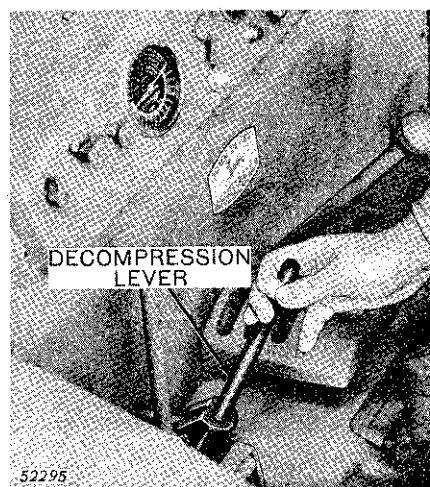

Figure 10-10-2—Operating Decompression Lever
(1) Allow the cranking engine to run a short while before engaging it with the diesel engine. The length of time will vary with the air temperature, being normally from 1 to 3 minutes.
(2) Turn the cranking engine throttle lever clockwise to the "run" position.
(3) Pull the decompression lever to the rear (Figure 10-10-2).